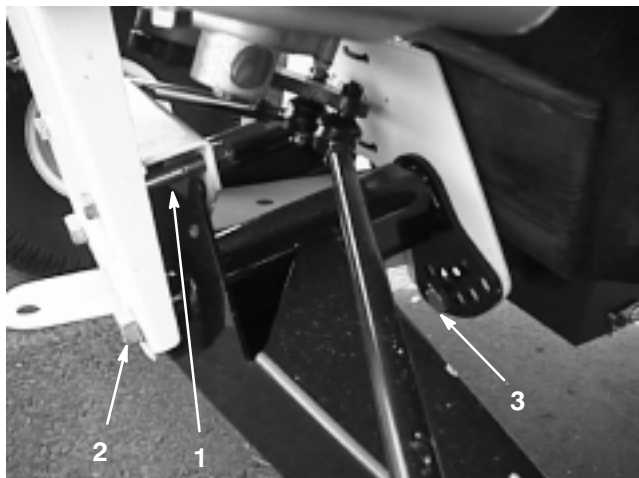

Figure 23
2. Remove the travel limiting bolt (Fig. 23).
3. Loosen the centering bolts in the front "A" frame (Fig. 23).
4. Remove the ride height adjustment bolt (Fig. 23).
5. Rotate the front "A" frame to desired position (Fig. 23).
6. Replace the ride height adjustment bolt and the travel limiting bolt (Fig. 23).